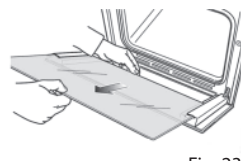

Fig. 23
- Pull the glass inner pane slowly (Figure 23).